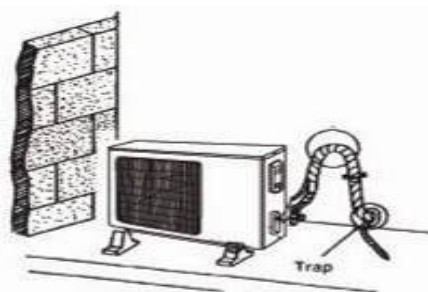

Fig.27
If the outdoor unit is installed higher than the indoor unit (See Fig.27)
- 2) All pipes are bound and taped together and also should be trapped to prevent water from returning to the room (See Fig.27)